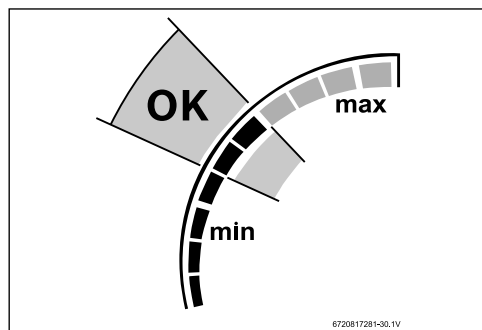

Fig. 58 Power bar middle point
- ▶ Verify if power bar level is at middle point, see fig. 58.
- Verify if power bar level is at middle point, see fig. 58.